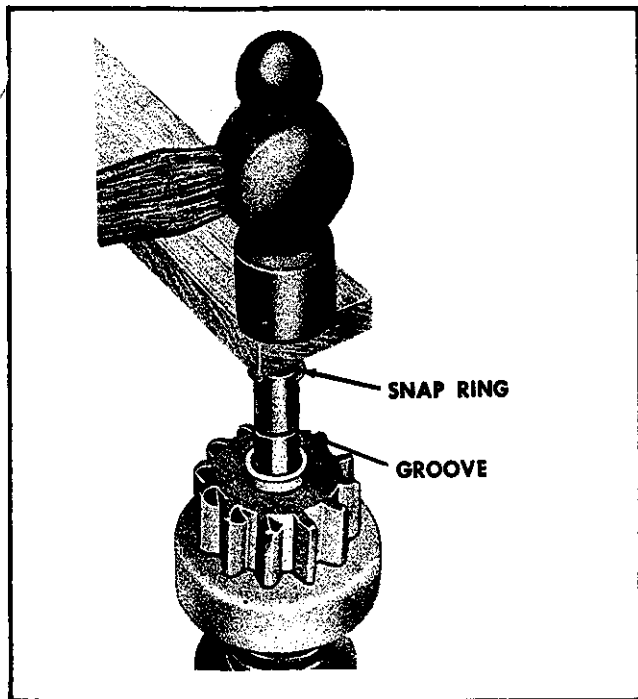

Fig. 131-Forcing Snap Ring over Shaft
- b. Place the snap ring on the end of the shaft. With a piece of wood on top of it, force the ring over the shaft with a light hammer blow (Fig. 131) then slide the ring down into the groove.